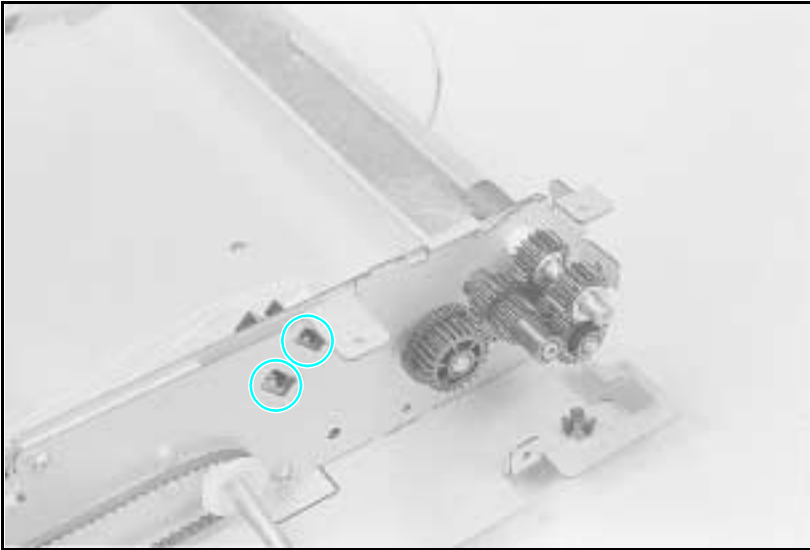

Figure A-22 Holding Tray Paper Sensor
- 2** Remove the (2) screws from the stepper motor mount and remove mount. (This provides access to the paper sensor latches.)
- 3** Squeeze the (2) latch points of the paper sensor to release (see Figure A-22).